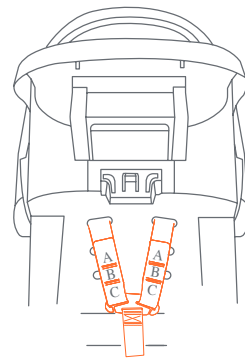

Fig. 32-2
- Reassemble the Harness Straps to the Belt Adjuster Plate. Do the left Harness Strap first, followed by the right Harness Strap. Check that Harness Straps are completely within the Belt Adjuster Plate loop (Fig. 32-2). You have three adjustment positions on the harness.